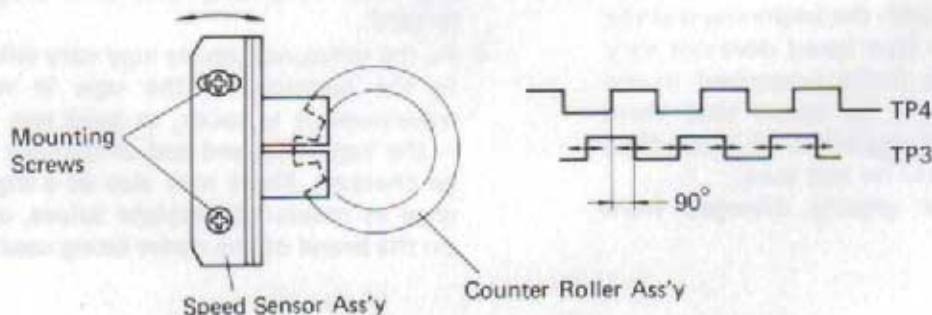

Fig. 9-4-10. Speed Sensor Ass'y Position Adjustment
3. Adjust the mounting position of the speed sensor assembly by loosening two mounting screws so that phase shift of the two inputs becomes  $90^\circ$  as shown in Fig. 9-4-10.